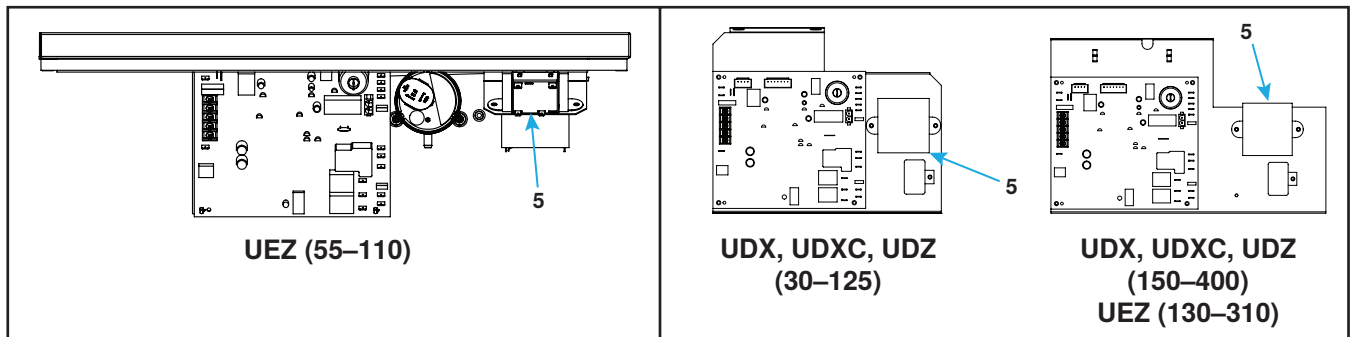

Figure 2. Transformer Location—Models UDX, UDXC, UDZ, and UEZ (Refer to Table 2)
- (1) Remove control compartment access panel and locate existing transformer (see Figure 2) mounted on control board at bottom of control compartment for unit size 130–310 UEZ and all UDX, UDXC, and UDZ models.
- (2) Mark and disconnect transformer wires.
- (3) Remove screws that secure existing transformer and remove transformer.
- (4) Install replacement transformer (5) with wiring harness (6) and secure using existing screws.
- (5) Reconnect transformer wires in accordance with wiring diagram provided with unit.
- (6) Install control compartment access panel.